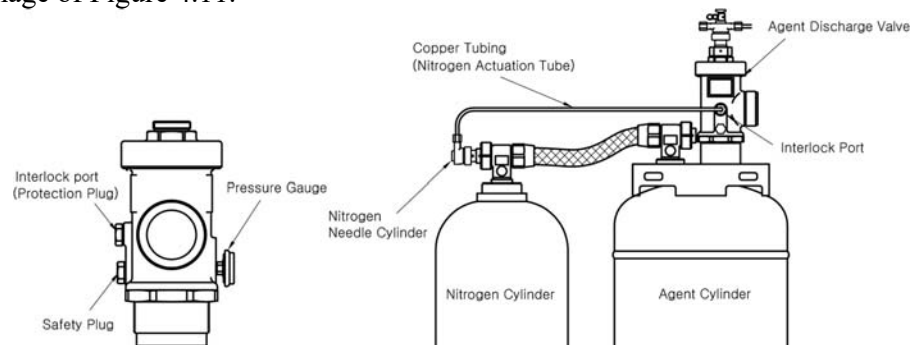

Figure 4.11. Nitrogen actuation tube installation (*AFC-P227 only).
1. Remove (unscrew) the interlock port protection plug (TU-060) from the agent discharge valve body (see left image of Figure 4.11).
The completed installation of nitrogen actuation tube (CT-500/530/600) is shown in the right image of Figure 4.11.